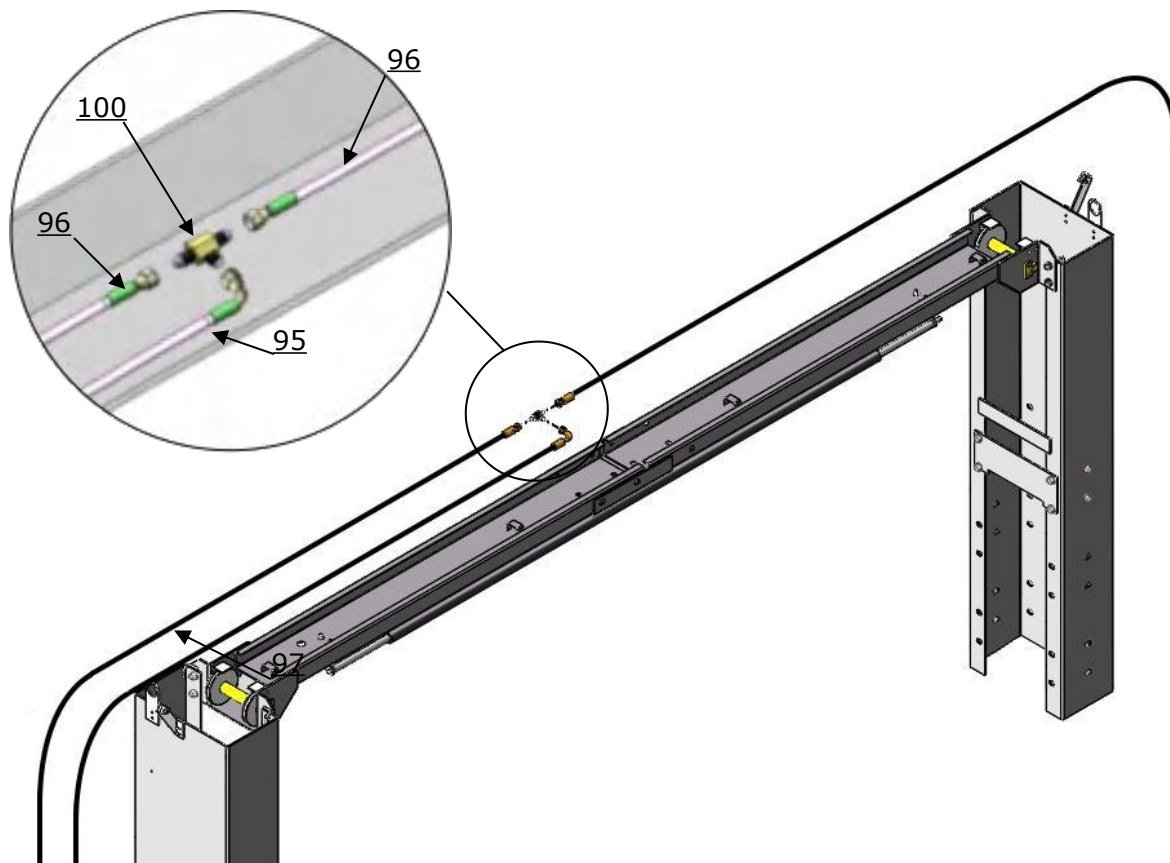

Fig.35
3. Oil hose installation of low setting. **(Fig.35)**